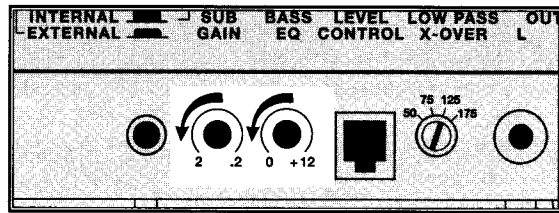

Figure 4 - Bass & Gain Controls
1. Start adjustments at minimum sensitivity (Gain control at 2V, Bass EQ at 0), a counter-clockwise setting for Bass EQ and Gain (See Figure 4).